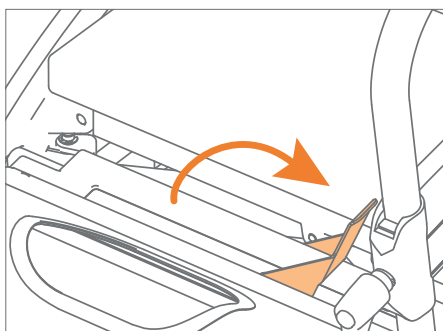

Figure 51: Unlocking the wheelchair package.
- Pull up the red handle without force. This will unlock the wheelchair package and retract the locking bolts (**Figure 51**).